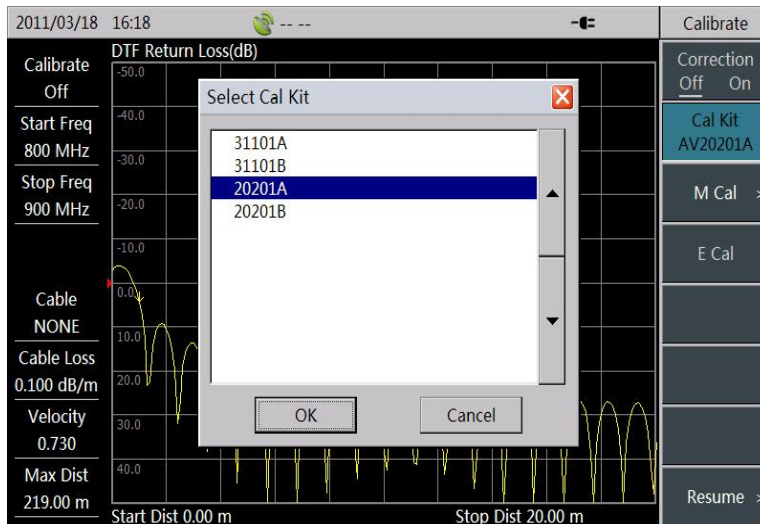

Figure 3.1 Selection of Calibration Kit Model
2. Select [Cal Kit] menu, then choose the matched model of calibration kit from “Select Cal Kit” list popped up in the screen, and select the “Enter” key or press **【Enter】** to finish the calibration kit selection, as shown in Figure 3.1.